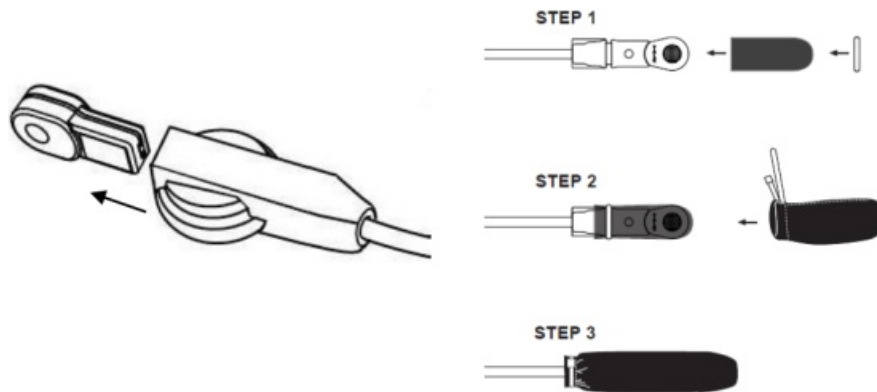

Figure 8: Microphone Removal; Windscreen Kit Install
3. **To remove the M-2H microphone**, simply grab the top and bottom of the microphone firmly between your thumb and forefinger, and pull out assertively from the boom bracket. Do not use pliers, as this can cause damage to the microphone (**see Figure 8**)
5. To install a new mic windscreen kit, with microphone installed, fit the foam windscreen completely over the microphone (note: if a high-wind mic cover kit, fit concentric foam screens over the microphone) (**see Figure 8**)